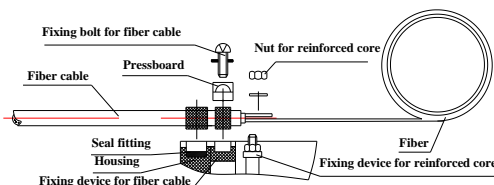

Figure 3
4.1 Fixed cable and reinforced core according to the picture below. See figure 3